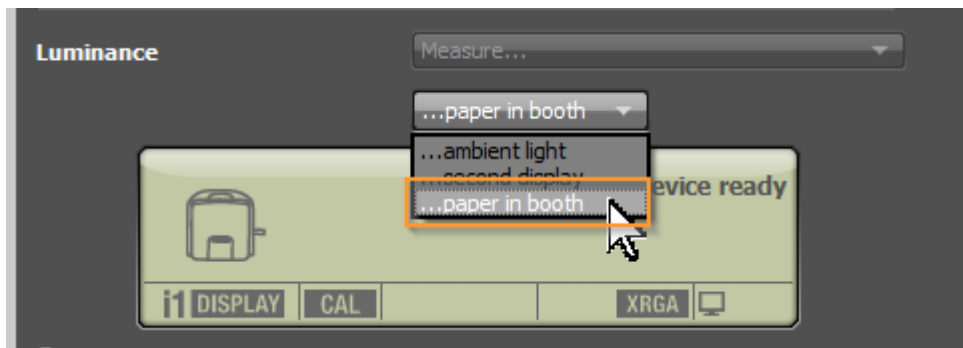

Figure 5 Select "paper in booth" option
4. Select "paper in booth" (Figure 5)